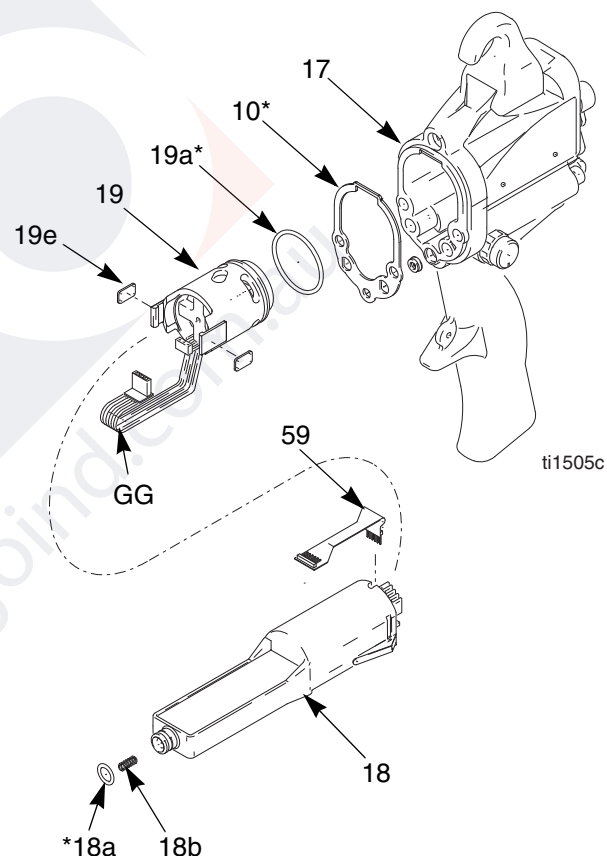

Fig. 17. Power Supply
- Grasp the power supply (18) with your hand. With a gentle side to side motion, free the power supply/alternator assembly from the gun handle (17), then carefully pull it straight out. *On Smart Models only*, disconnect the flexible circuit (59) from the socket at the top of the handle (17). See FIG. 17..
- Disconnect the 3-wire connector (GG) from the power supply. Slide the alternator up and off the power supply. Inspect the power supply and alternator for damage. *On Smart Models only*, disconnect the 6-pin flexible circuit (59) from the power supply.
- On Smart Models only*, connect the 6-pin flexible circuit (59) to the power supply.
- Connect the 3-wire connector (GG). Slide the alternator (19) down onto the power supply (18).
- Lubricate the power supply o-ring (18a*) with dielectric grease (40).
- Insert the power supply/alternator assembly in the gun handle (17). Make sure the ground strips make contact with the handle. *On Smart Models only*, connect the flexible circuit (59) to the socket at the top of the handle. Push the 6-pin connector into the socket to ensure it is properly connected.
- Install the barrel (16), page 30.